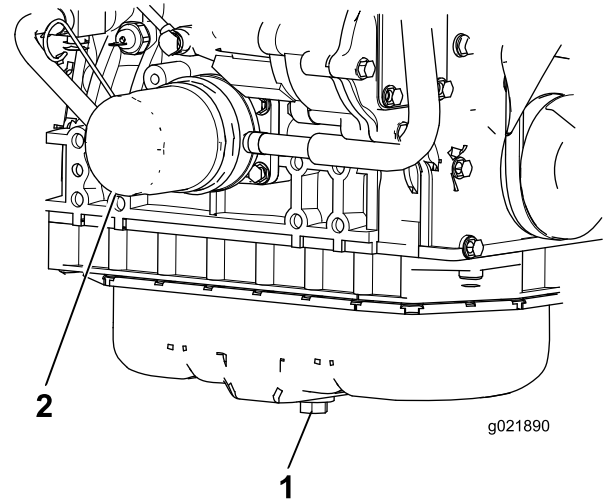

Figure 52
1. Remove the drain plug (Figure 52) and let the oil flow into a drain pan. When all the oil is drained, install the drain plug.
2. Remove the oil filter (Figure 52). Apply a light coat of clean oil to the new filter seal before screwing it on. **Do not overtighten.**